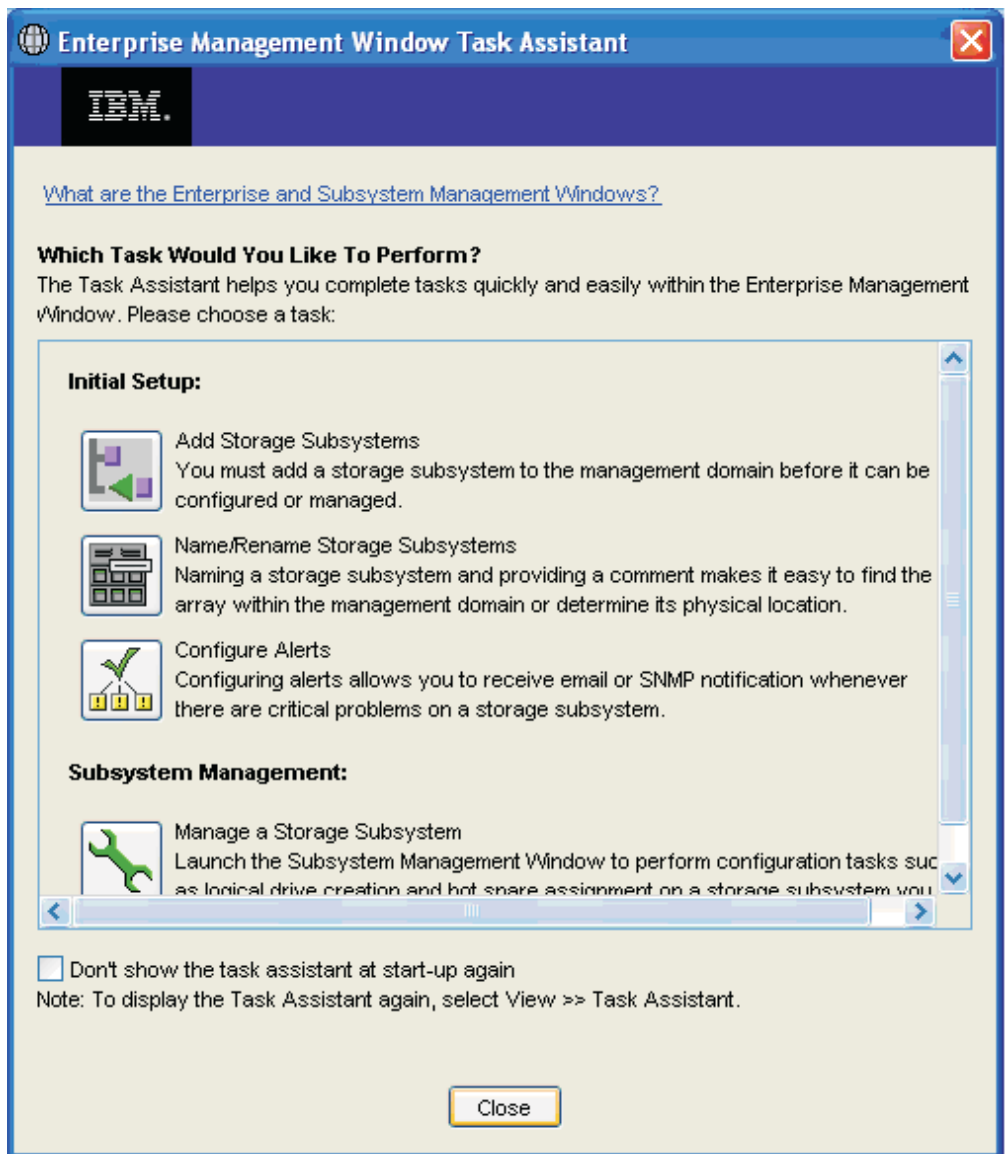

Figure 18. Enterprise Management Window Task Assistant
- b. Select **Close** (see Figure 18 on page 36).